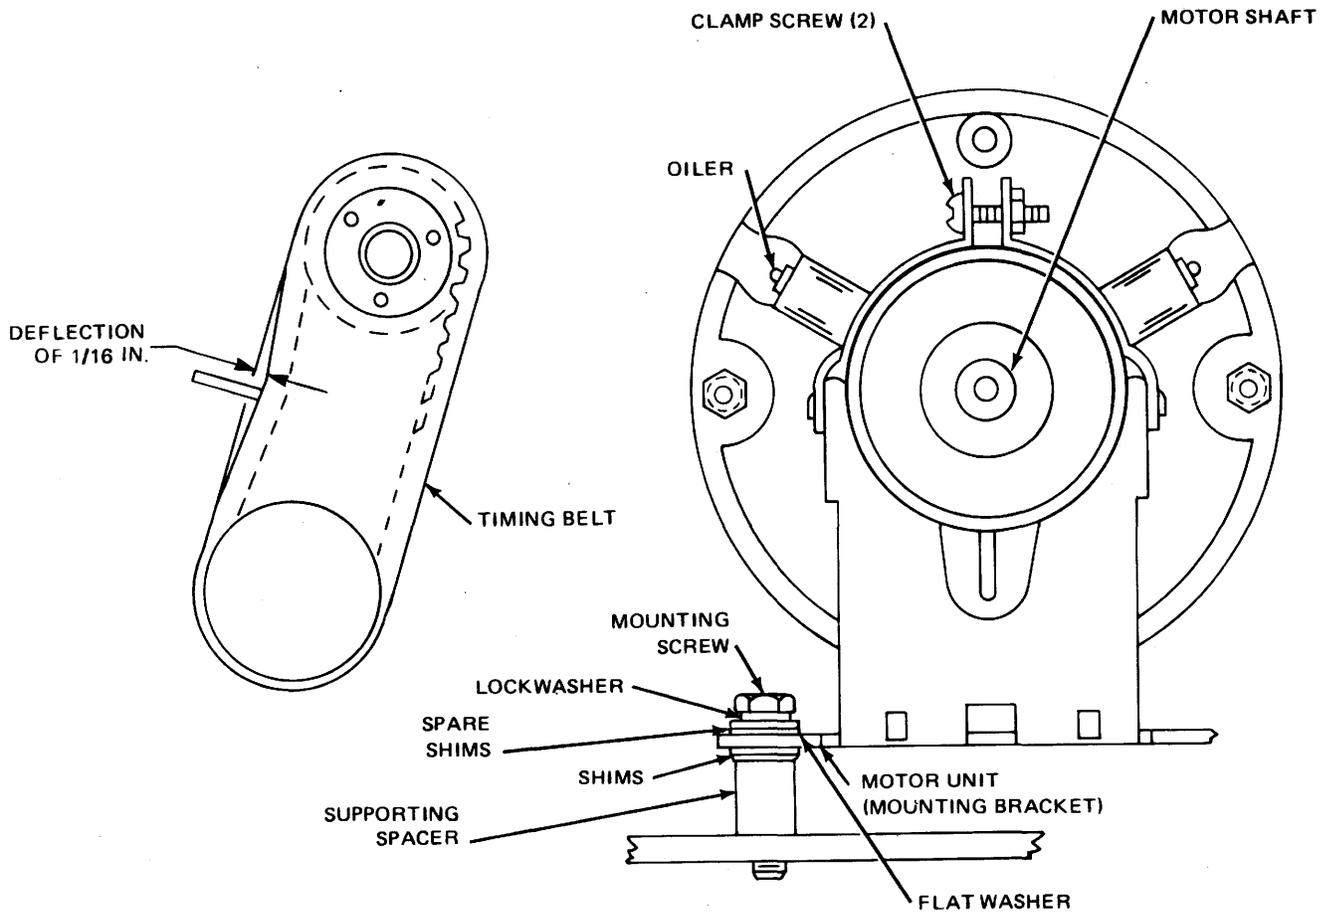

Figure 6-35. Motor and Timing Belt Adjustment.
2. Adjust nine magnet plates (see figure 6-35).
6-31. Punch Motor and Timing Belt Adjustments. To adjust punch motor and timing belt, perform normal turnoff procedure (paragraph 6-24, step 2), see figure 6-35, and proceed as follows:
2. Adjust punch motor (see figure 6-35).
3. Adjust punch timing belt (see figure 6-35).